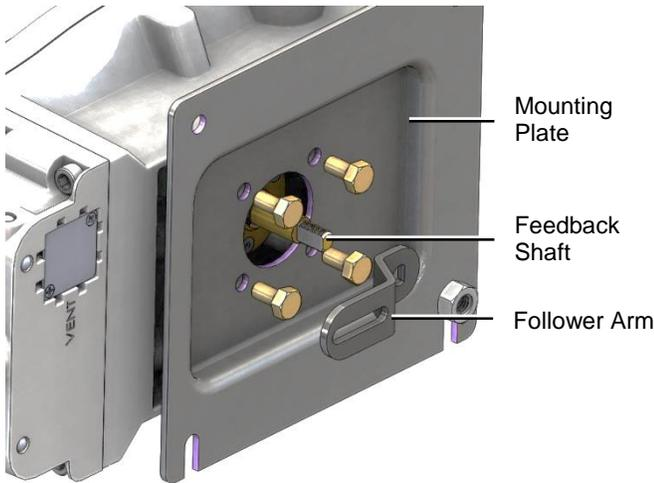

Figure 17: MaxFlo Follower Arm
- 2 Attach the mounting plate to the positioner using four screws and attach follower arm to positioner feedback shaft. See Figure 17: MaxFlo Follower Arm and Figure 18: MaxFlo Connection.